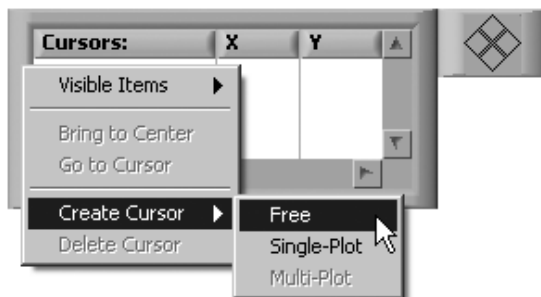

Figure 8.48
9. Pop up on the graph and select **Visible Items>>Cursor Legend**. The cursor legend will first appear empty (with no cursors). Pop up on the cursor legend and select **Create Cursor>>Free** to create a *free cursor* (one that does not snap to plot points), as shown in Figure 8.48.